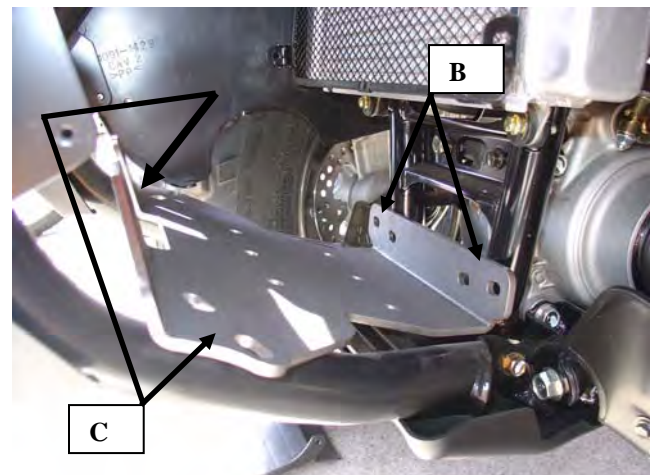

Figure 2 Place mount into position (Brute force 650 Shown)
2. Place the Mount into position as shown in "Figure 2". The mount can be put into position from either the side or from the front by rotating the mount sideways.
6. Place the Four supplied U-bolts (B and C) around the ATV frame and through the mounting plate in the locations shown in “Figure 2”. Fasten the supplied washers and nuts to the U-bolts to the recommended Torque of “17 lb. ft. (12.5 N-m)”